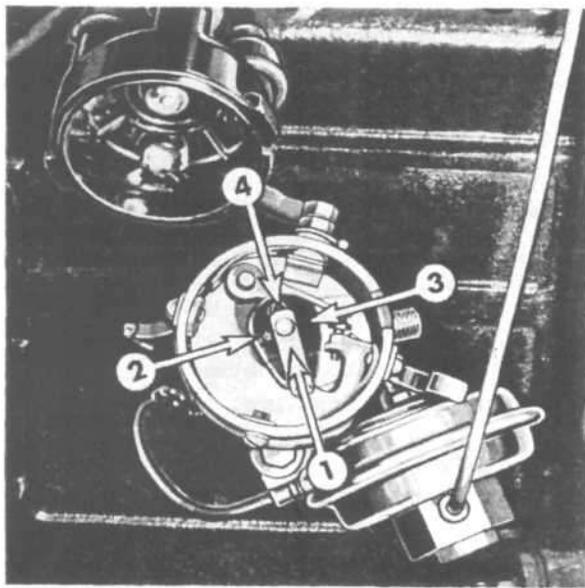
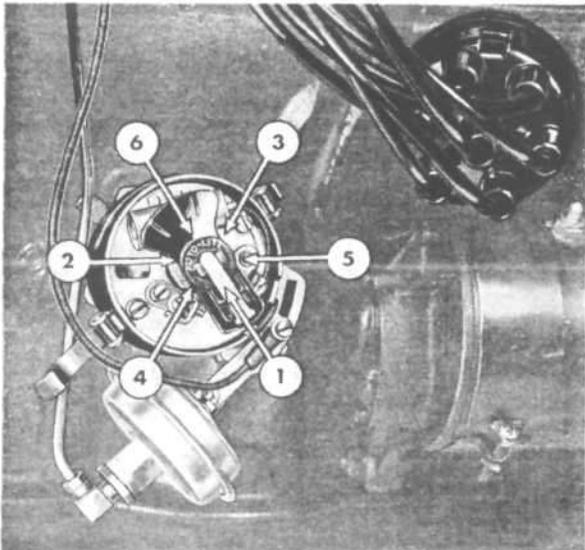

FIG. 163—FIRING POSITIONS — FOUR CYLINDER
FIG. 164—FIRING POSITIONS—SIX CYLINDER
- a. Remove high-tension wires from the distributor cap terminal towers, noting the order in which they are assembled to assure correct reassembly. No. 1 spark plug terminal tower in the distributor is the lower right hand tower at the distributor cap spring clip, starting with this tower the wires are installed in a counter-clockwise direction 1-3-4-2 on the four cylinder engines as shown in Fig. 163 and 1-5-3-6-2-4 on six cylinder engines — Fig. 164.
Connect the primary wire from the coil to the distributor. Install the spark plugs. Install the spark plug wires placing them in the distributor cap terminal towers starting with No. 1 and installing in counter-clockwise direction in the firing sequence which is 1-3-4-2 for four-cylinder engines. Fig. 163. Start the engine and run it until thoroughly warm and then recheck the timing with a neon timing light. When using the neon light disconnect the vacuum tube otherwise the distributor may advance slightly resulting in a false setting. Do not fail to reconnect the tube.